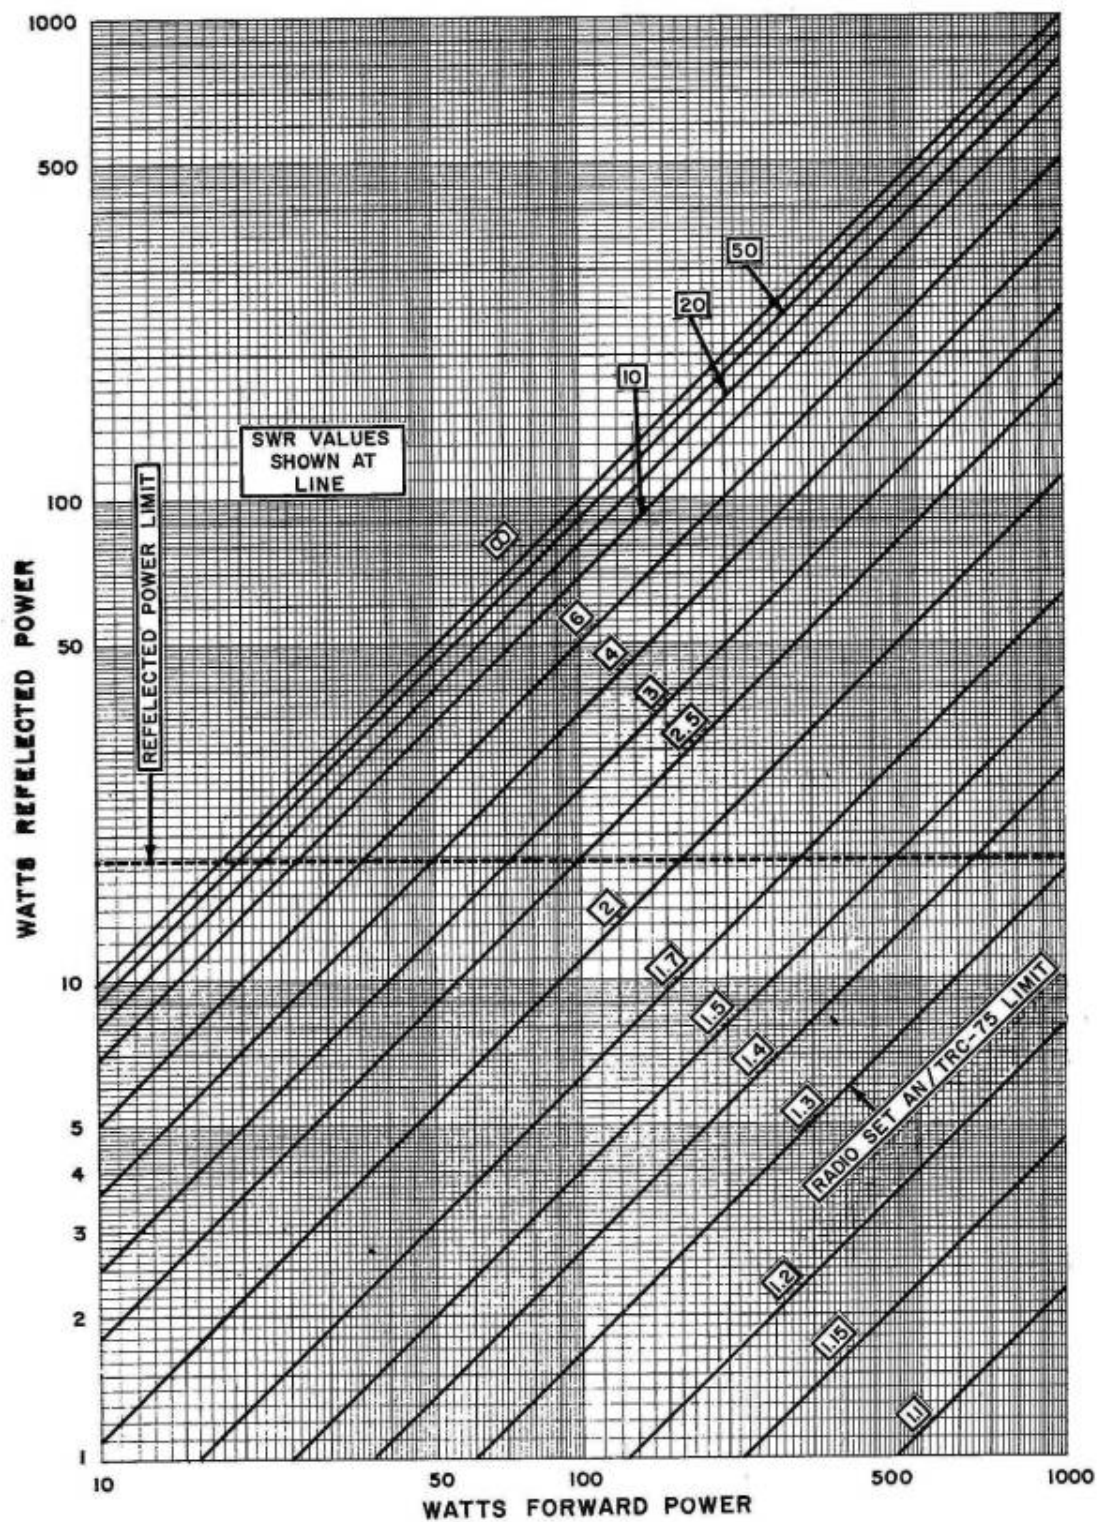

FIG 13 - STANDING WAVE RATIO GRAPH
58. The control panel of Radio Set AN/TRC-75 has a meter for measuring forward and reflected RF power output. An RF POWER switch is used with the meter. The standing wave ratio can be determined by using the meter readings with the graph reproduced in Fig 13. The meter reading in the reflected power position normally is very small when the radio set is connected to and operated with the proper antenna.